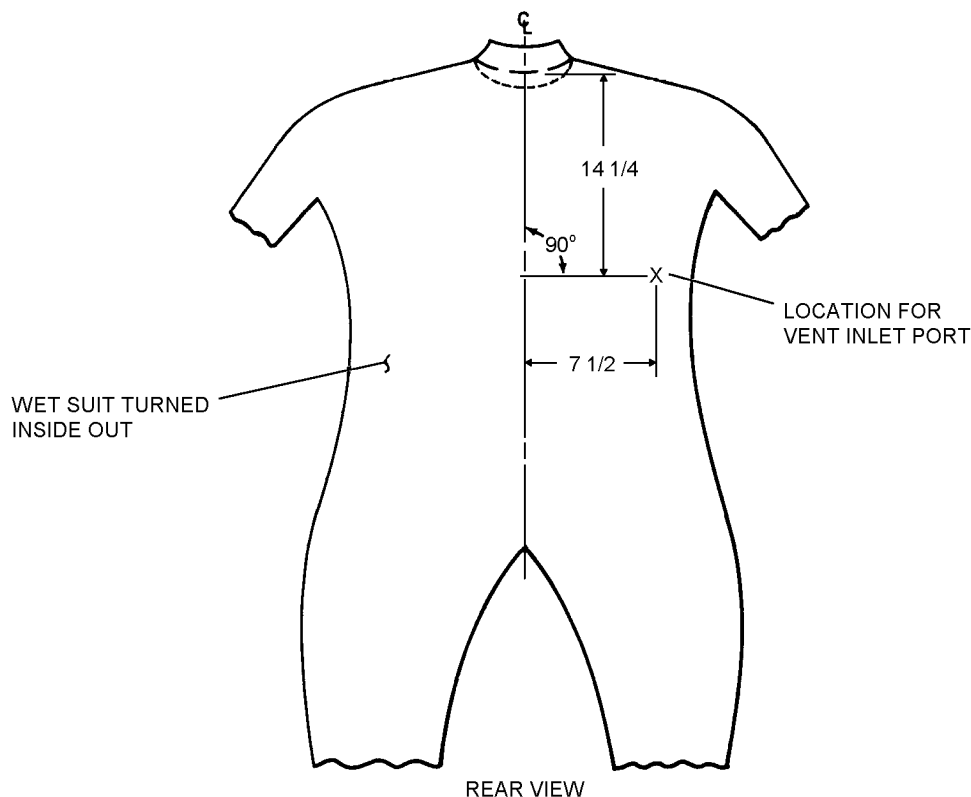

Figure 5-20. Vent Inlet Port Position (Suit)
b. Mark the location on the wet suit for the vent inlet port. See figure 5-20.